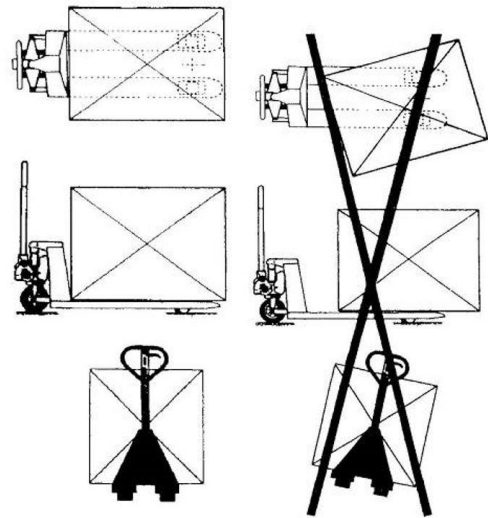

Fig. 6
5.2 The cargo loading type is shown in fig. 6.